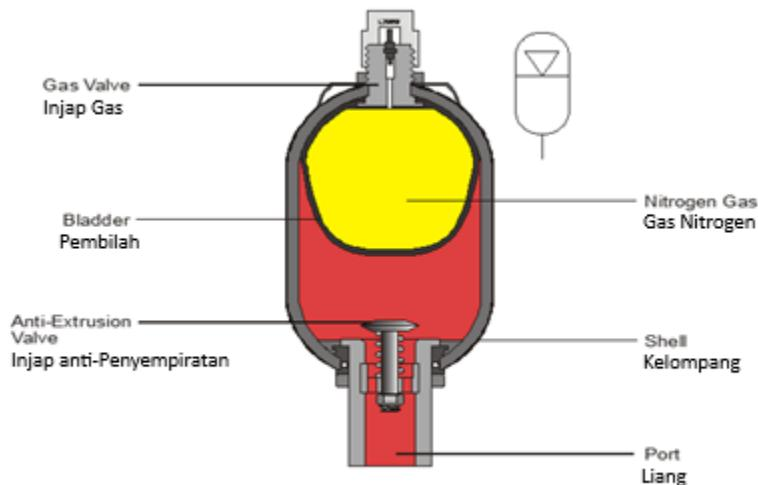

Figure A2(b) / Rajah A2(b)
- CLO1 (b) Elaborate the operation for component in Figure A2(b).